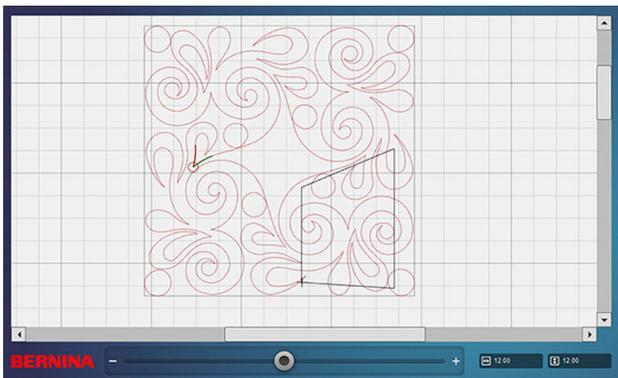

Fig. 22
4. Move the Sewhead around the section of the quilt you would like to mask. Confirm each point by selecting Set on the Sewhead screen. The last point should be on top of the first point to auto close the shape (Fig. 22).